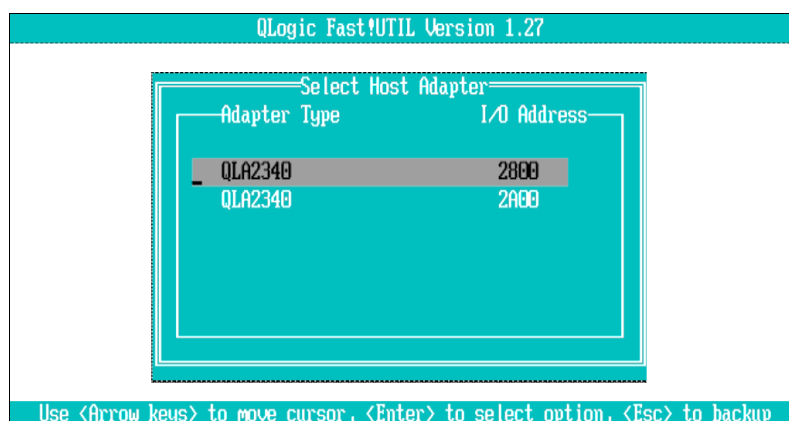

Figure 1-9 Select Host Adapter menu
1. Start your server. During the start process, press Ctrl+Q when prompted to load the configuration utility and display the **Select Host Adapter** menu (see Figure 1-9).